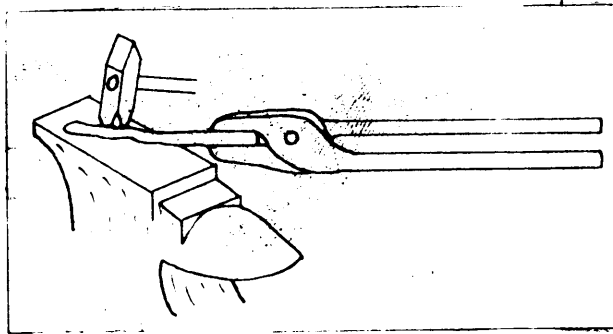

Figure 4.
3. Then place the stock on the anvil, and proceed as in Operation 1, by drawing to a square, then eight sided, then round. (Figure 4)